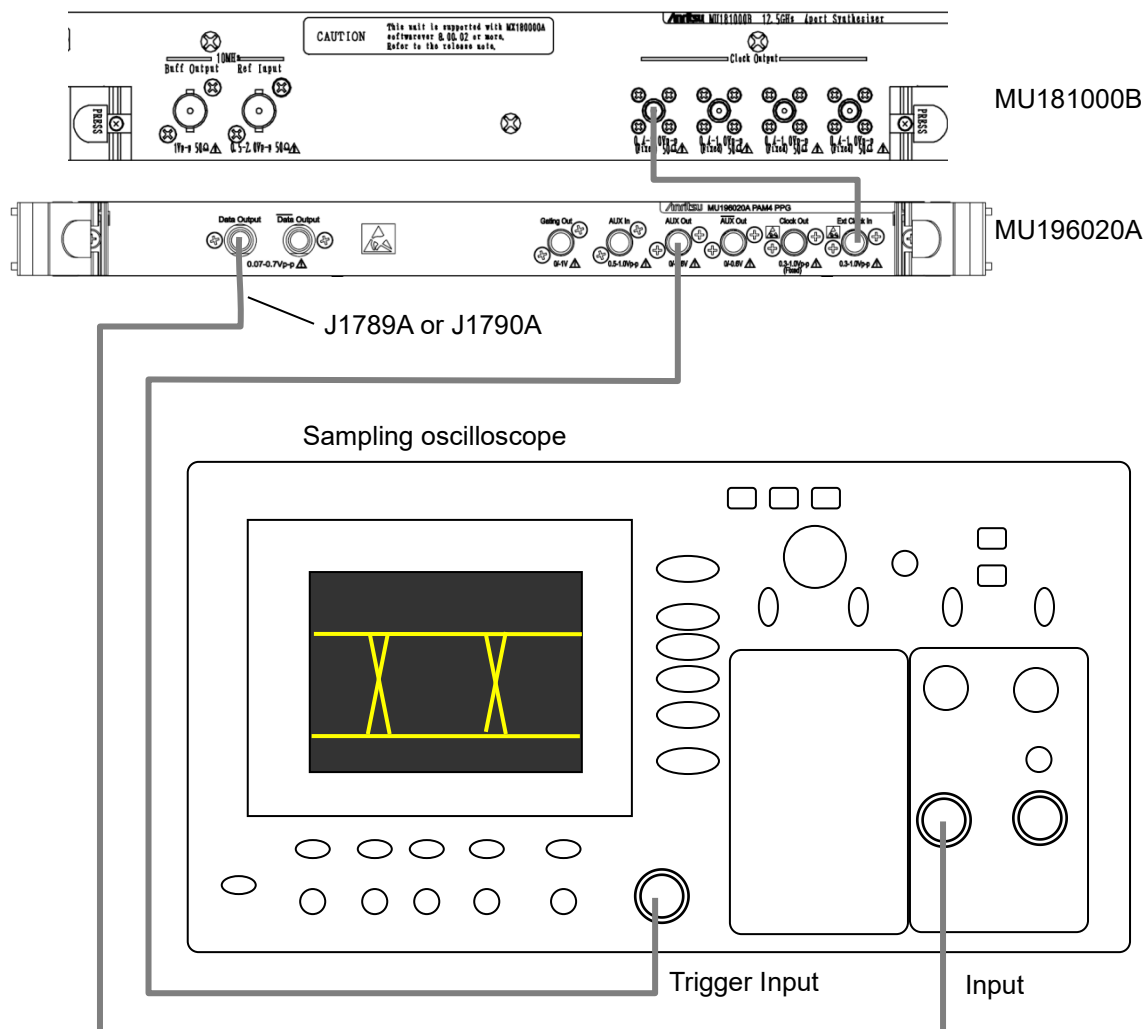

Figure 5.3.2-1 Connection Diagram for Waveform Test
8. Connect the measuring instrument cables as shown in Figure 5.3.2-1. Be sure to connect the terminators (standard accessories) to the Output connectors to which cables are not connected.
10. Enable the MP1900A signal output (ON) and output signals.